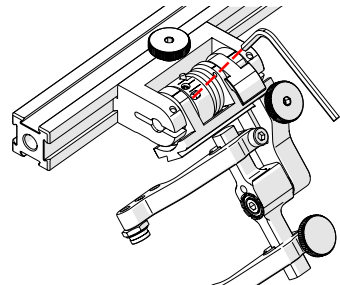

Fig. 99 - Unlatched position
3. Insert the short arm of a 3 mm hex wrench into the 3 mm slot (Fig. 99).